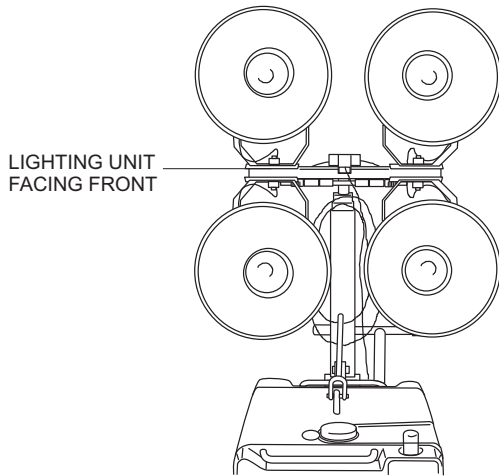

Figure 22. Lighting Unit Facing Front
2. Set the lighting units facing the front (Figure 22).